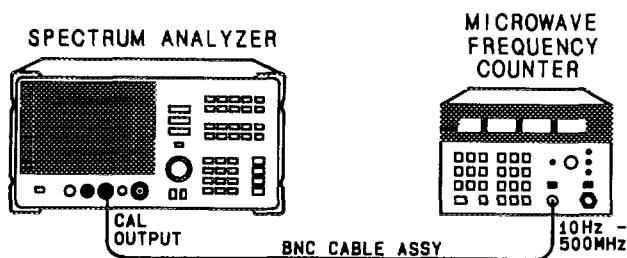

Figure 3-1. Frequency Reference Accuracy Test Setup
1. Connect the equipment as shown in Figure 3-1.